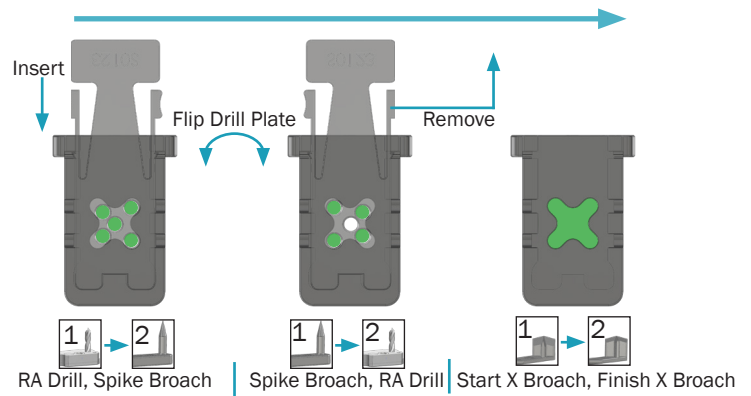

Fig. 30
2.15 Using the Spike Broach attached to the offset impactor, broach all four corners of the Drill Plate. The central hole does not need to be re-broached. (Fig. 30)
2.19 Using the X-Stem Finish Broach attached to the offset impactor, repeat the steps described in 2.18. Steps 2.12-2.19 are summarized below. (Fig. 30)